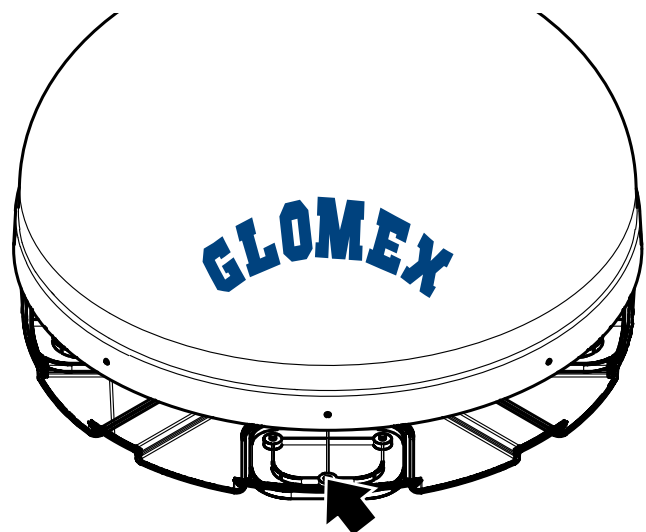

Fig. 11
5. OPTIONAL OPERATION: remove the plates by unscrewing the 2 nuts securing them to the lower radome. Drill the lower radome with an 8 mm bit near the punching, put back the plates and drill near the previously made holes, again using an 8 mm (**Fig. 11**) bit.